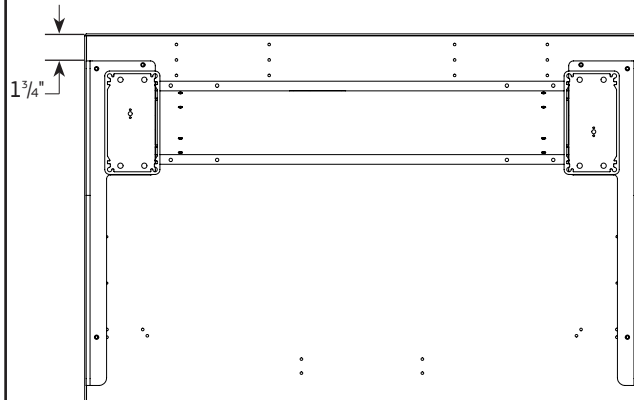
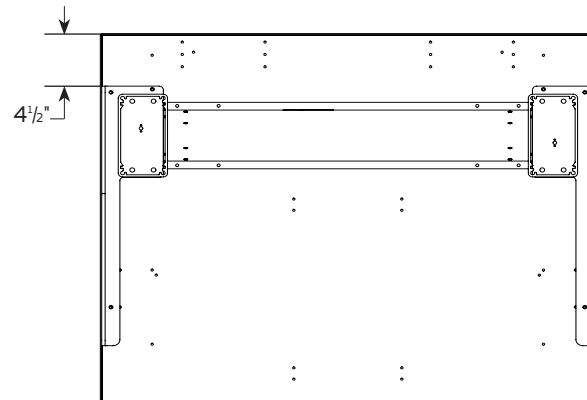

Figure 5: Table Base, 24-26" D Work Surface
Figure 6: Table Base, 27-42" D Work Surface
- 4c. The back edge of the Table Base should be 1¾" (Figure 5) or 4½" (Figure 6) from the back edge of the work surface. Properly align the Table Base support brackets, left and right, over the predrilled holes of the work surface.